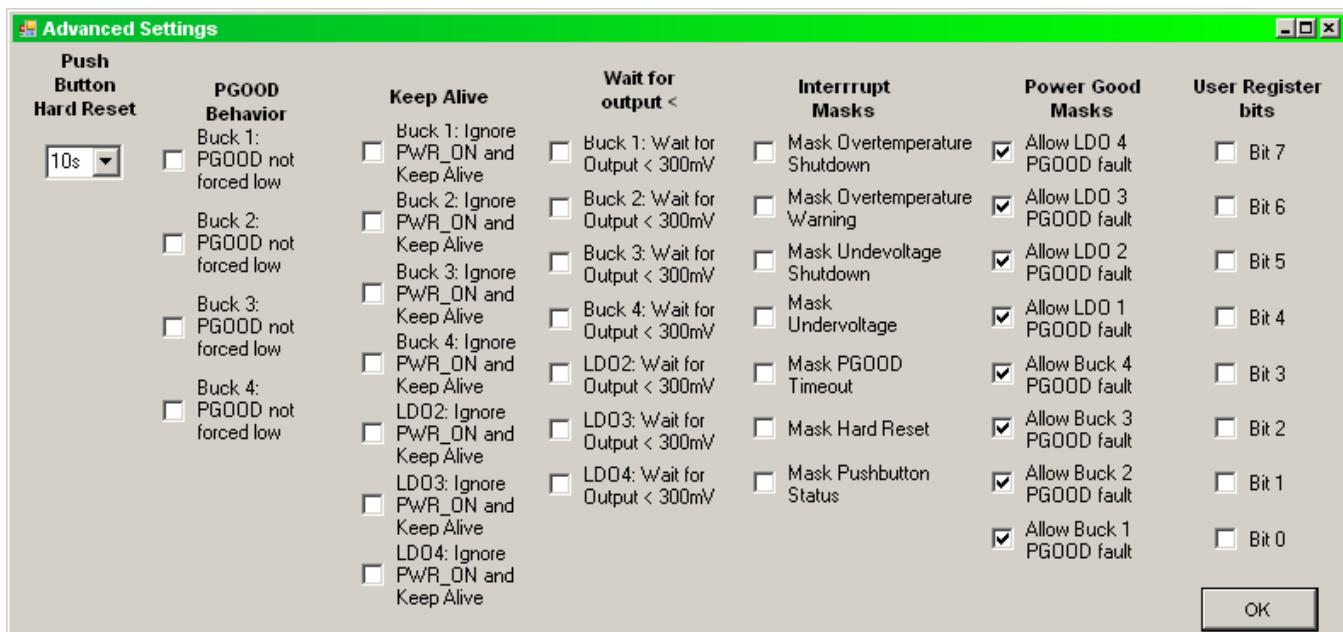

Figure 5. DC1976A-A (LTC3676EUJ) Advanced Settings Form
- The Advanced Settings form (Figure 5) is brought up by pressing the Advanced Settings button on the LTC3676 form.
This button brings up the Advanced Settings form (Figure 5), which allows the control of several less used bits. Any changes made in this form will immediately be reflected in the appropriate command registers on the LTC3676 form. However, if Auto Update Enabled is disabled, the value will not be sent to the LTC3676EUJ until auto update is re-enabled or Update All is pressed.